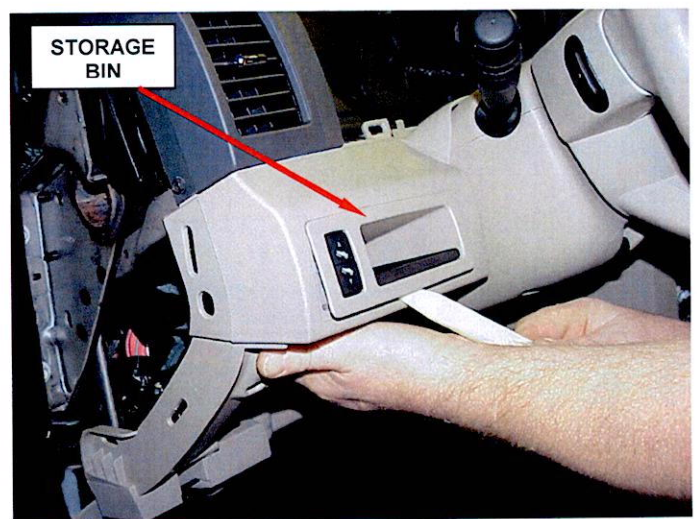

Figure 7 – Storage Bin Removal
21. Remove the instrument panel storage bin to gain access to an additional top cover retaining screw (Figure 7).
50. Install the instrument panel storage bin (Figure 7).